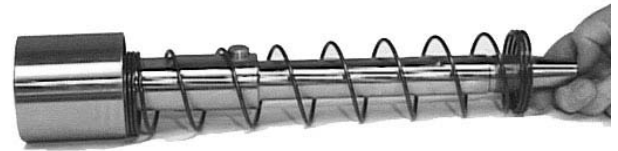

Figure 9-14. Slide Spring onto Valve Stem.
1. To prevent it from moving during assembly, fasten the End Cap (15) securely in a vise or saddle clamp.
2. Slide the Spring (11) onto the tapered and threaded end of Valve Stem (10) as shown in Figure 9-14.